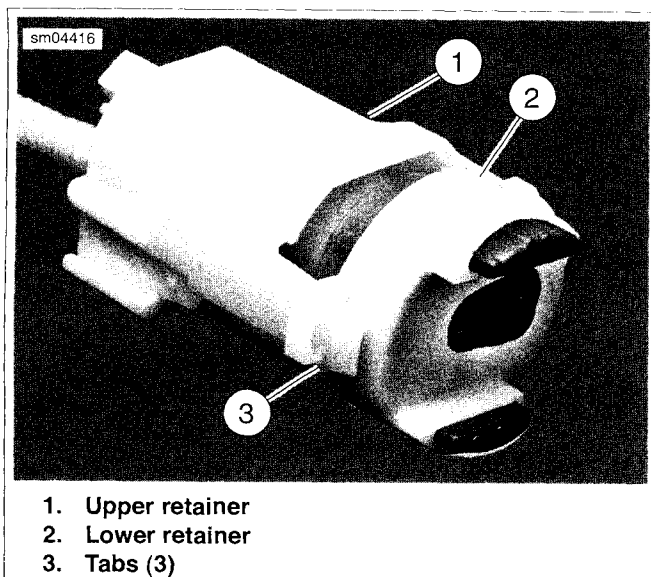
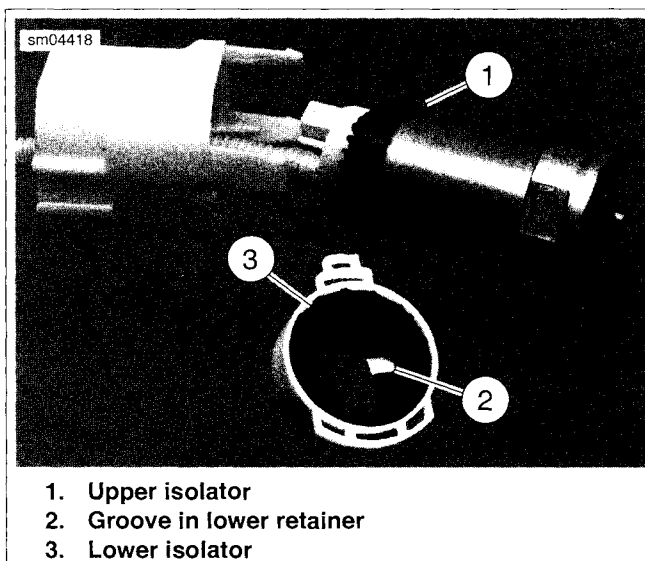

Figure 4-49. Fuel Pump
Figure 4-50. Fuel Pump Isolators
4. See Figure 4-49. Depress tabs (3) and remove lower retainer (2) from upper retainer (1).
5. See Figure 4-50. Remove upper isolator (1) from fuel pump and replace pump.
6. Install upper isolator (1) onto fuel pump.
8. Make sure lower isolator (3) is properly positioned in lower retainer. Groove in lower retainer (2) should be visible with lower isolator installed.
9. See Figure 4-49. Install lower retainer.